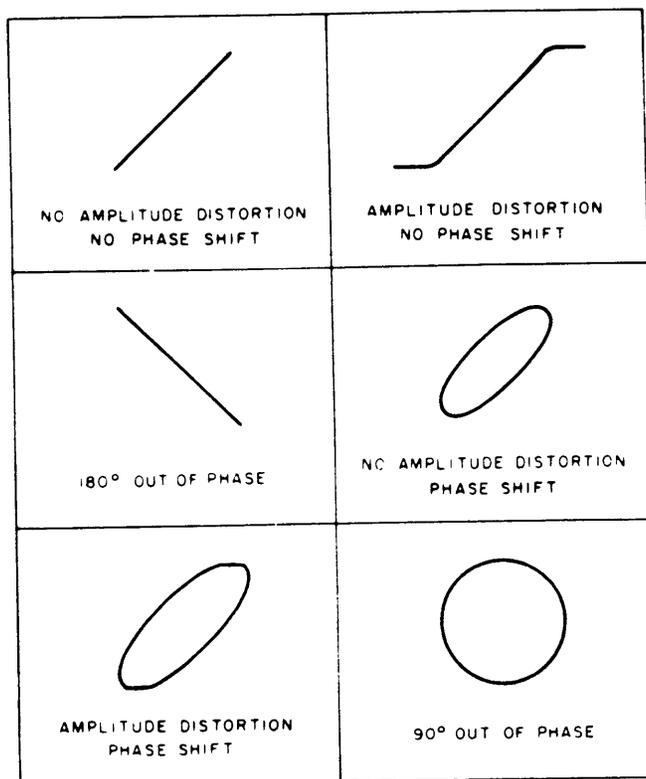

Fig. 21. Typical phase measurement scope displays.
7. Some typical results are shown in Fig. 21. If the two signals are in phase, the oscilloscope trace is a straight diagonal line. If the vertical and horizontal gain are properly adjusted, this line is at a 45° angle.